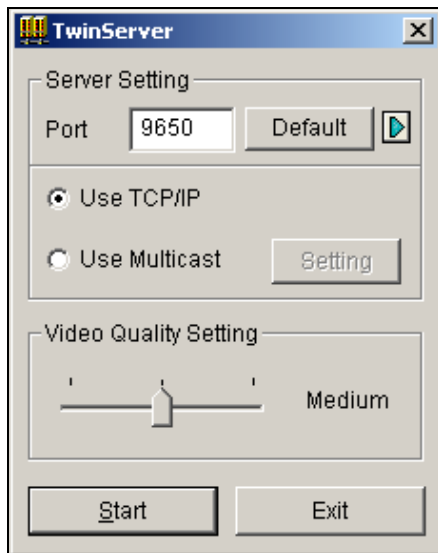

Figure 11-7 TwinServer Settings
3. Keep the server port in default, or it should match the TwinServer port. See Figure 11-7.